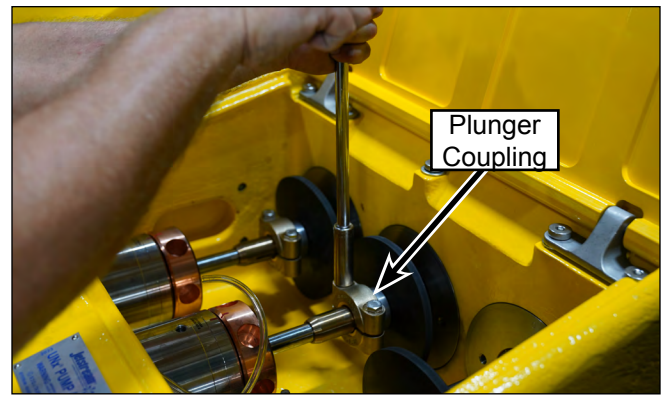

Figure 21: Plunger Couplings.
11. Remove the two bolts that secure each plunger coupling (Figure 21) to the plungers and remove the three couplings.
15. Extend the plunger from each stuffing box until it mates with the opposing crosshead pony rods. Install the plunger coupling (Figure 21) on each plunger and secure with the two bolts. Tighten the bolts to 20 ft.-lb.(27 N·m).